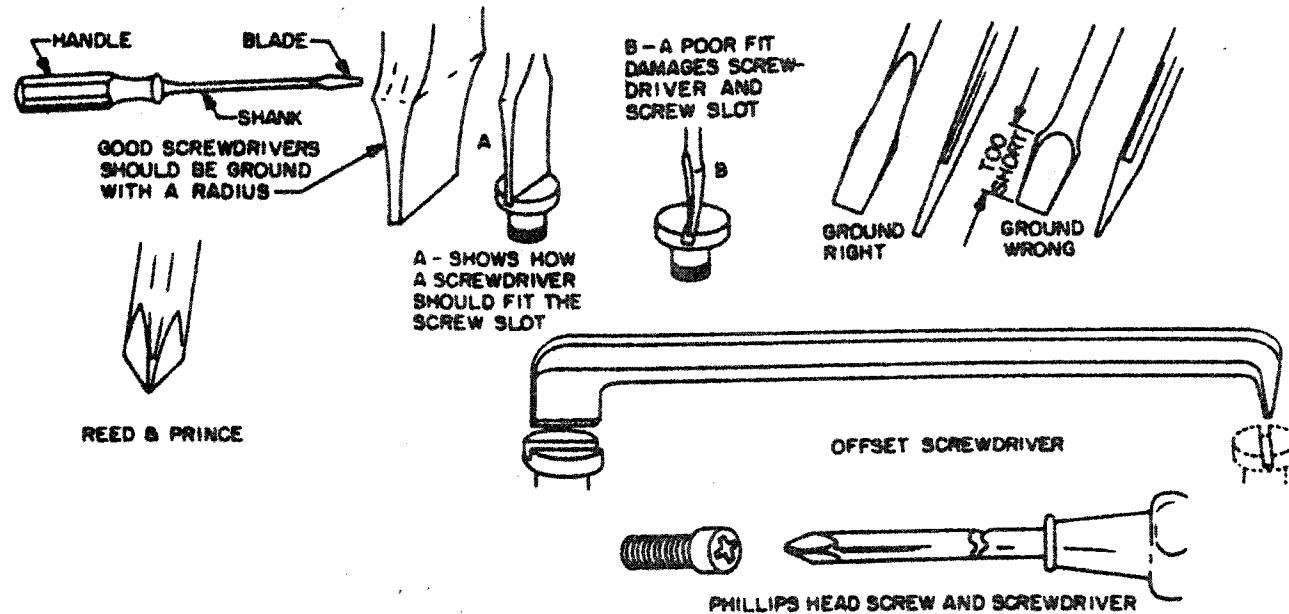

Figure 10.23. Screwdrivers
## COMMON (General Purpose) (Figure 10.23)
3. Keep the faces parallel for a short distance or have them taper in a slight amount. Never grind the faces so they taper to a sharp edge at the tip. (See Figure 10.23)